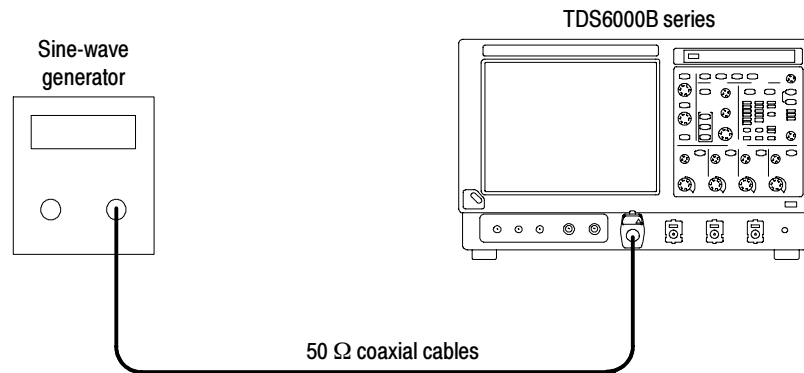

Figure 4-27: Initial test hookup
- Hook Up the test-signal source (see Figure 4-27):*